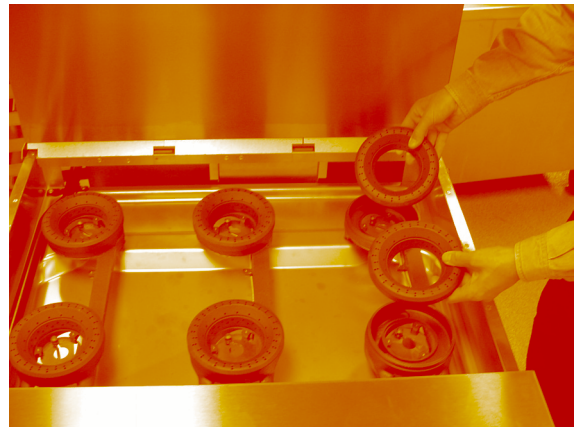

Fig. 14
3. After cooling, remove the top rings from the burner heads (Fig. 14). These can be soaked in warm water with mild soap or placed in a commercial dishwasher for cleaning. Be sure to dry thoroughly before reinstalling. A quick method for cleaning is to remove the rings, turn ON the top burner, then lay the rings flip side down on the burner head for several minutes. This is a burn off cleaning process that will remove most debris from the burner ring and allow you to resume cooking quickly.